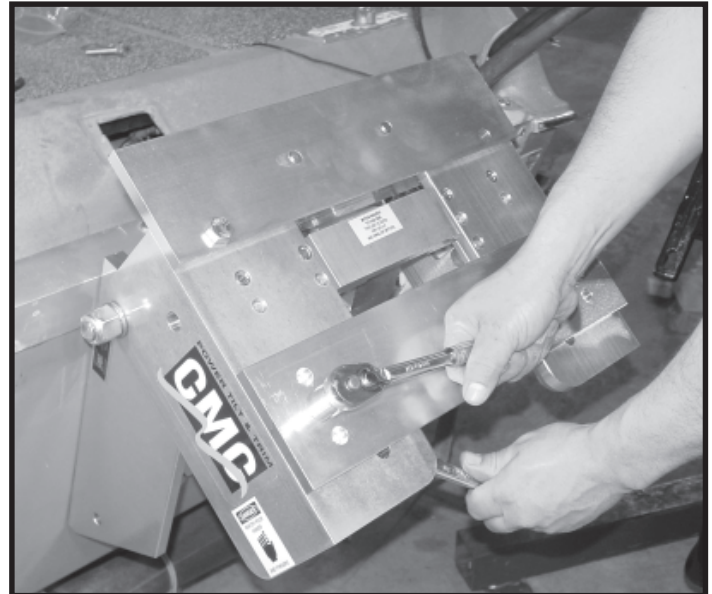

FIG. 14
Step 7D: Mount the bottom adapter plate to the PT-130. There are three adjustment holes on this plate. Mount it at the right height so when the motor is mounted the bottom feet of motor mounting bracket rest securely on the bottom adapter plate. (FIG. 14)